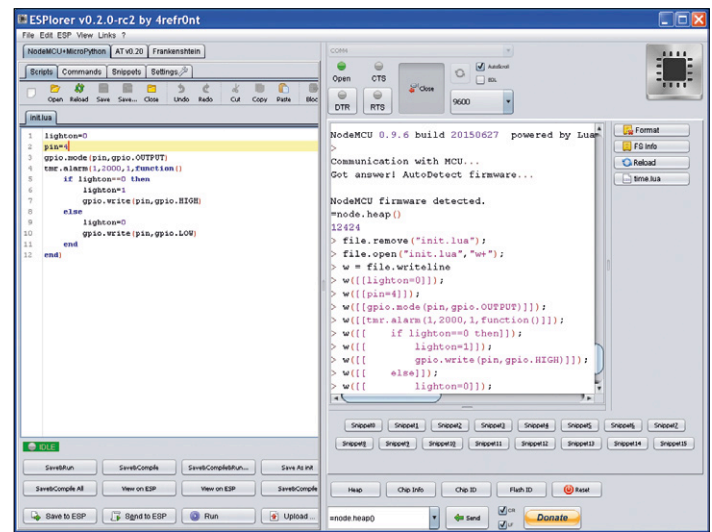

Figure 2. ESPLorer: the left pane shows the Lua script, while the right pane shows the dialog with the ESP8266.
**Figure 2** shows a screenshot in which the left-hand pane displays a Lua script, while the right-hand pane shows the dialog with the ESP8266. The 'LED blink' example shown is an effec-